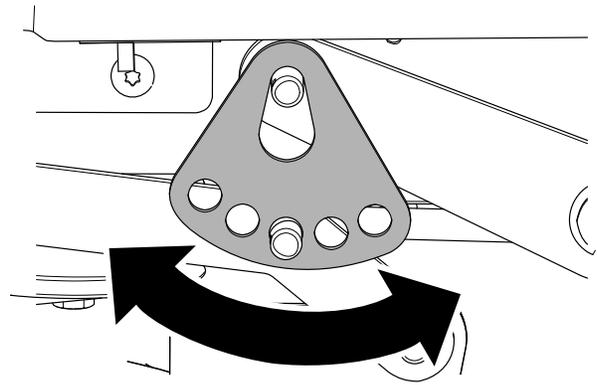

Figure 70
- Rotate the height-of-cut plate to a different hole so that it supports the weight of the mower deck after you install the plate (Figure 70).
- Install the washer and hairpin cotter (Figure 70).